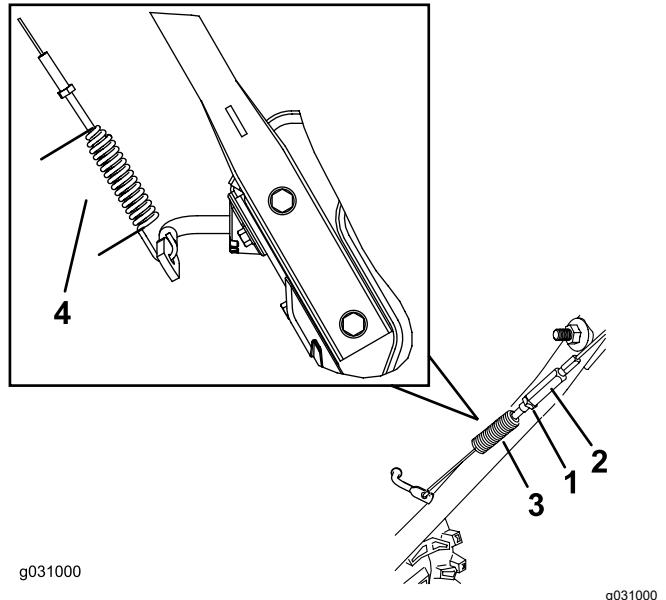

Figure 31
1. Loosen the jam nut (Figure 31).
3. Loosen or tighten the turnbuckle to adjust the spring length to 6.6 cm (2-3/5 inches) as shown in Figure 31.
4. Tighten the jam nut (Figure 31), ensuring that there is slight tension on the cable.